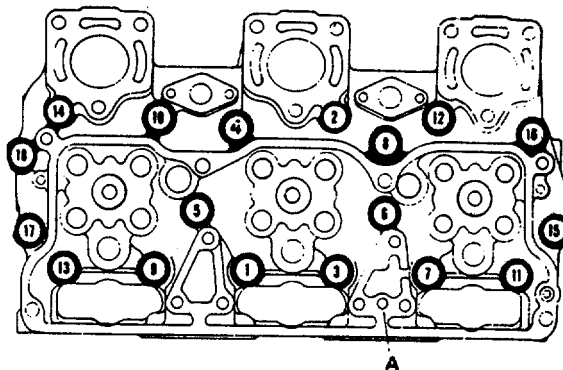

Figure 13-42. Head Capscrew Tightening Sequence
(10) Tighten capscrews to 25 to 40 foot-pounds (34 to 54 joules) in sequence shown in figure 13-42.
(11) Continue tightening in sequence to 150 to 200 foot-pounds (203 to 270 joules) and to 275 to 305 foot-pounds (373 to 414 joules) torque. Breakaway torque in direction of tightening is 275 to 340 foot-pounds (373 to 461 joules).
(12) Place a straight edge on top of, and parallel to, the cylinder head exhaust ports to check port flatness across all six points